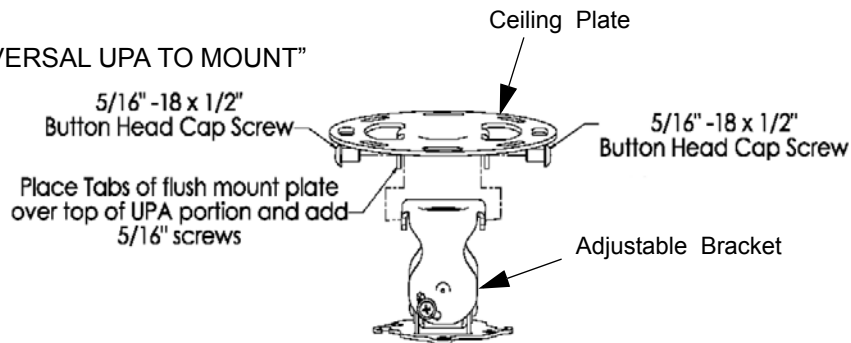

Figure 5. Attach Adjustable Bracket to Ceiling Plate
2. Secure using the two 5/16" 18 x 1/2" button head cap screw provided (see Figure 5).